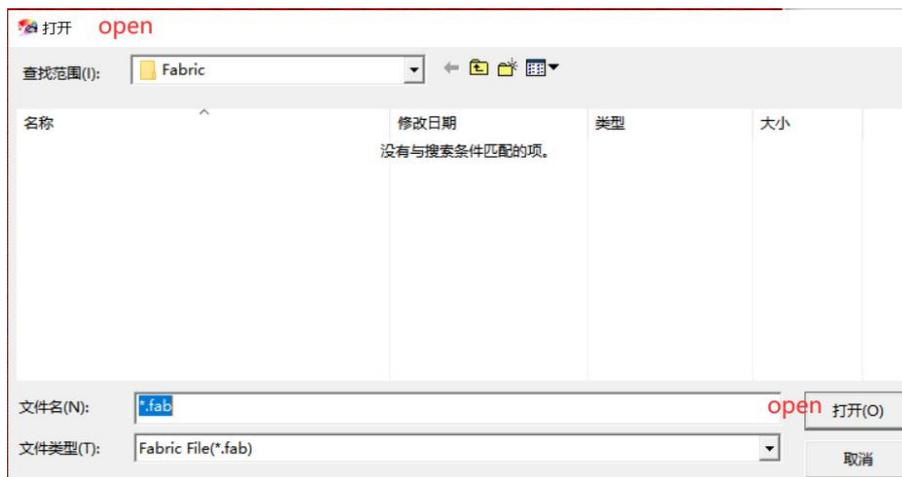

Figure 5-49 Open Fabric File Dialog Box
■  Open fabric: Click the Open Fabric command, the Open dialog box will pop up (Figure 5-49), select the fabric file to open the Fabric Design window.